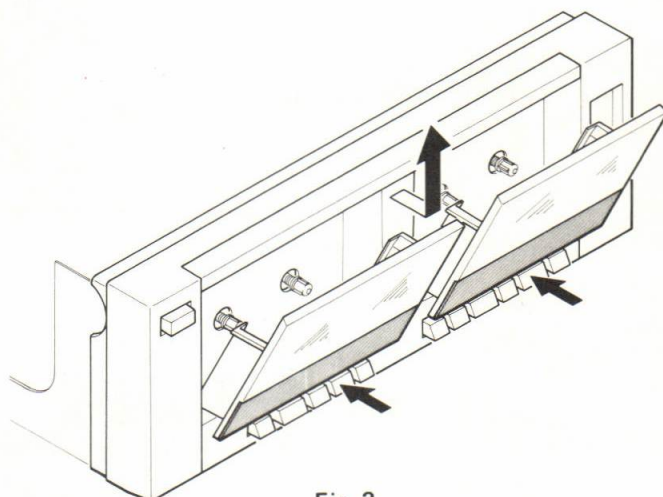

Fig. 2
- 2) Open the cassette lid and raise the front panel in the direction of the arrow. (See figure 2)
- 1) Mount the rec/pb lever to both Deck (1) and Deck (2) in position as illustrated. (See figure 2)